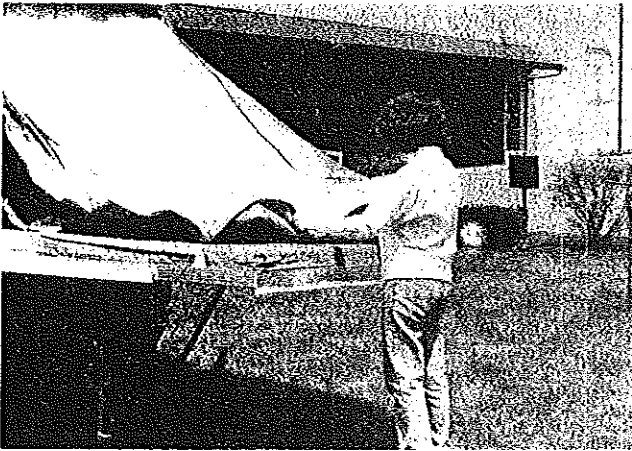
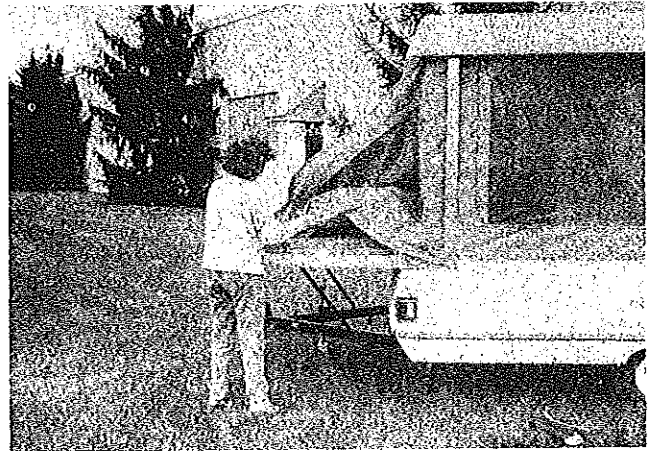

FIGURE 12
FIGURE 13
18. With both beds fully extended and supported, grasp the bottom edge of either the front or rear tent enclosure with hands approximately 2 1/2 feet apart. Gently pull until the tent fabric is pulled out toward the end of the wing beds. See Figure 12. Standing at either side of the wing bed, reach in underneath the tent fabric and grasp the side of the canvas bow and rotate toward the end of the bed. See Figure 13.